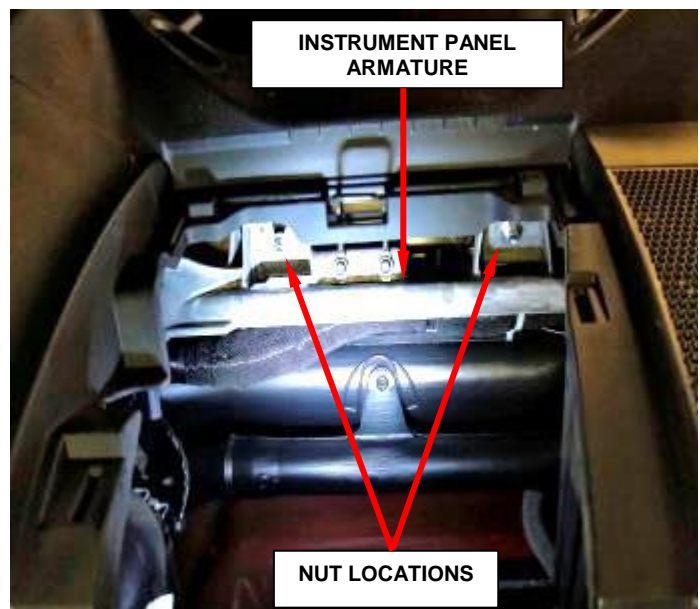

Figure 137 – PAB Lower Nuts
27. Reach up into the instrument panel glove box opening to access and remove and save the two nuts that secure the PAB lower studs to the instrument panel armature on each side of the glove box latch striker (Figure 137).